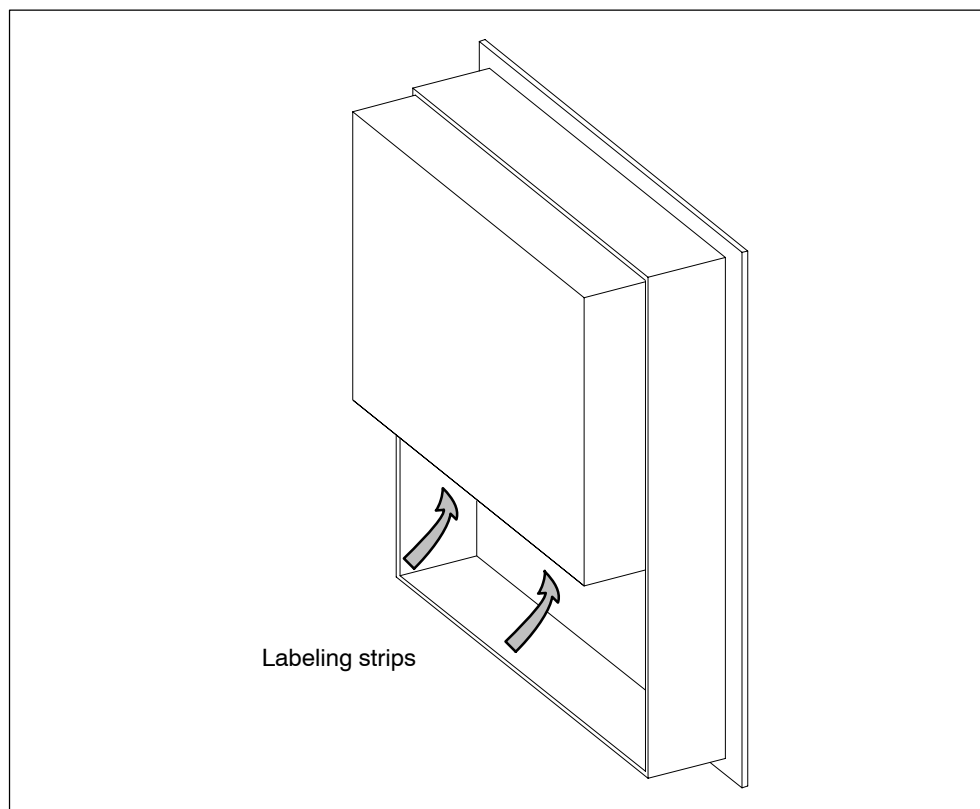

Figure 3-1 Inserting labeling strips for C7-635 Key
3.	With the labeling pointing downward, insert the new labeled strips into the slits on the front panel (use tweezers, if necessary). The position of the eight labeling strips is marked in Figure 3-1 with arrows.